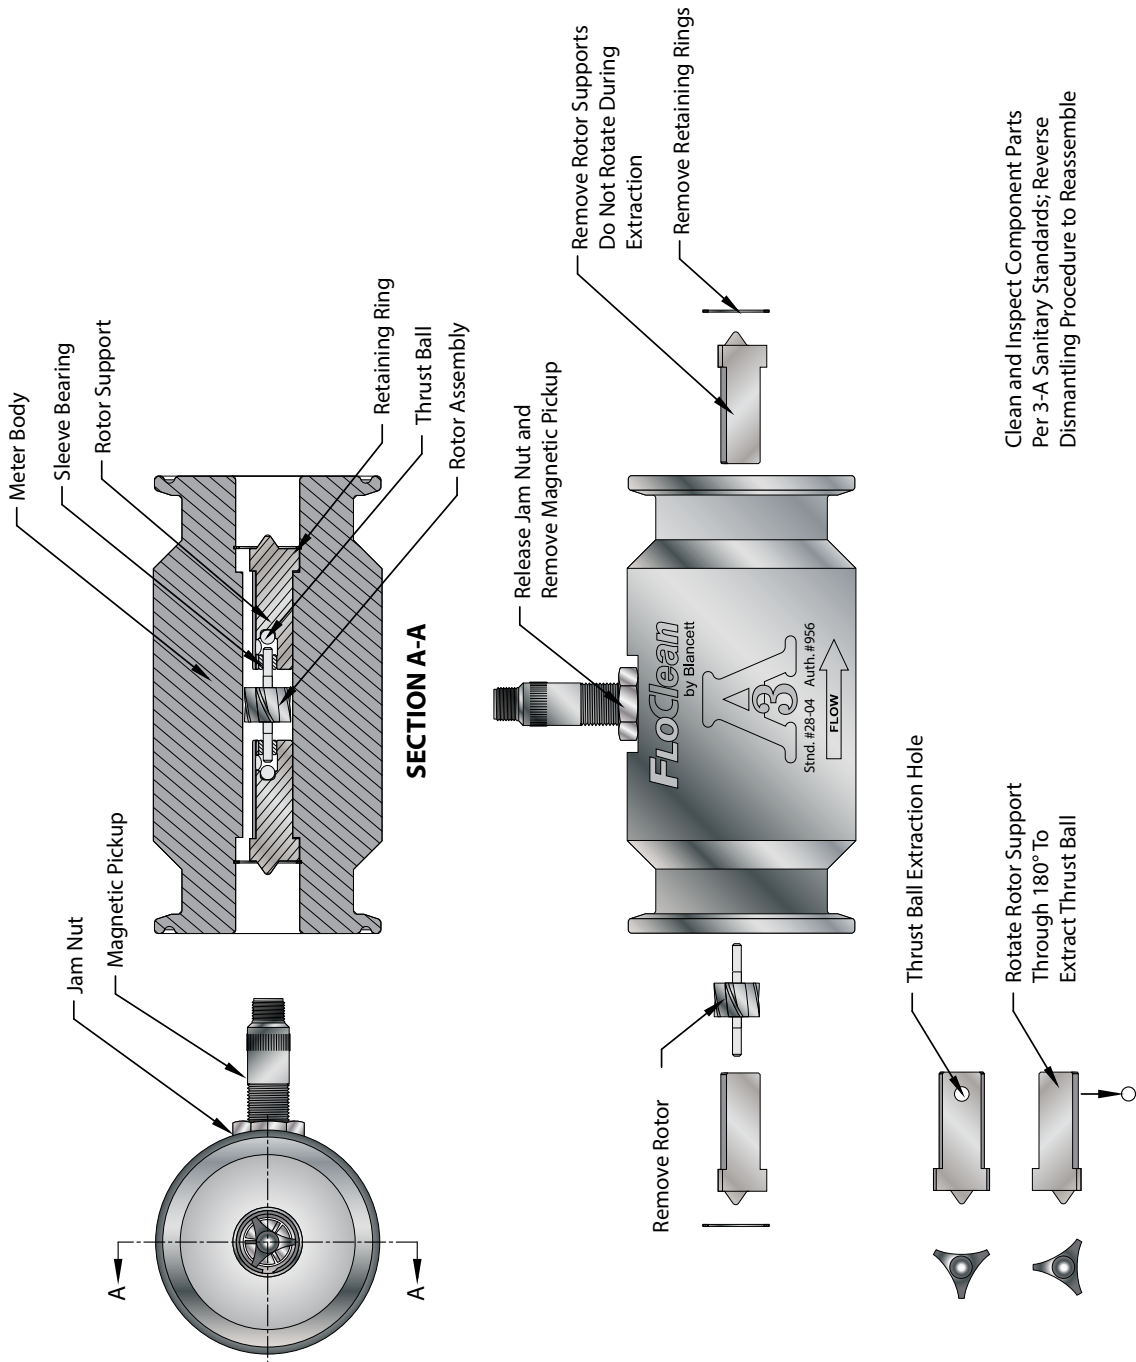

Figure 10: B16C 3-A series FloClean exploded view
**NOTE:** Refer to *Figure 10* for relative positions of repair kit components.